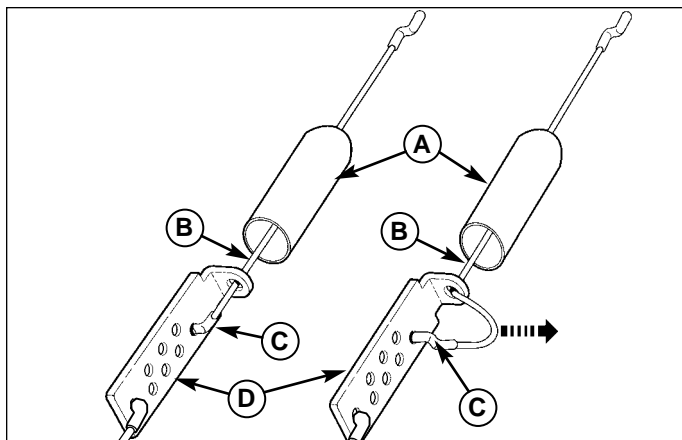

Figure 5. Traction Drive Cable Adjustment
2. To adjust tension on the cable slide the cable boot (A, Figure 5) off the cable adjustment bracket (D).
3. Move the "Z" hook (C) from the cable adjustment bracket (D) to a different adjustment hole. The cable should have slack. The cable should have no tension or load.